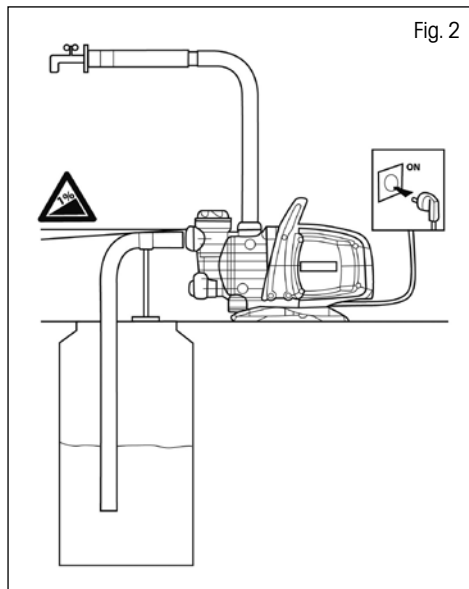

Fig. 2
Installation (Fig. 2.)
- ✿ We recommend to firmly install the pump. The holes in legs enable to correct the firm base with bolts (the bolts are not included in the package), see Fig. 2.
- ✿ A slight declination of the suction hose in the upward direction of the pump will prevent the creation of air pockets. Fig. 2.